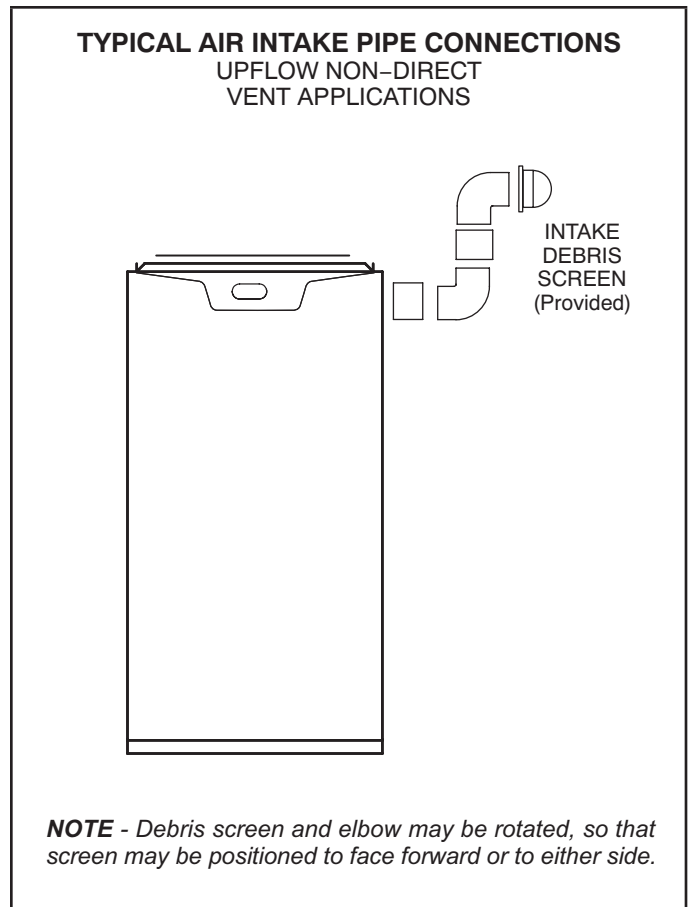

Figure 28
- 1 - Use field-provided materials and the factory-provided air intake screen to route the intake piping as shown in figure 28 or 29. Maintain a minimum clearance of 3" (76mm) around the air intake opening. The air intake opening (with the protective screen) should always be directed forward or to either side in the upflow position, and either straight out or downward in the horizontal position. The air intake piping must not terminate too close to the flooring or a platform. Ensure that the intake air inlet will not be obstructed by loose insulation or other items that may clog the debris screen.